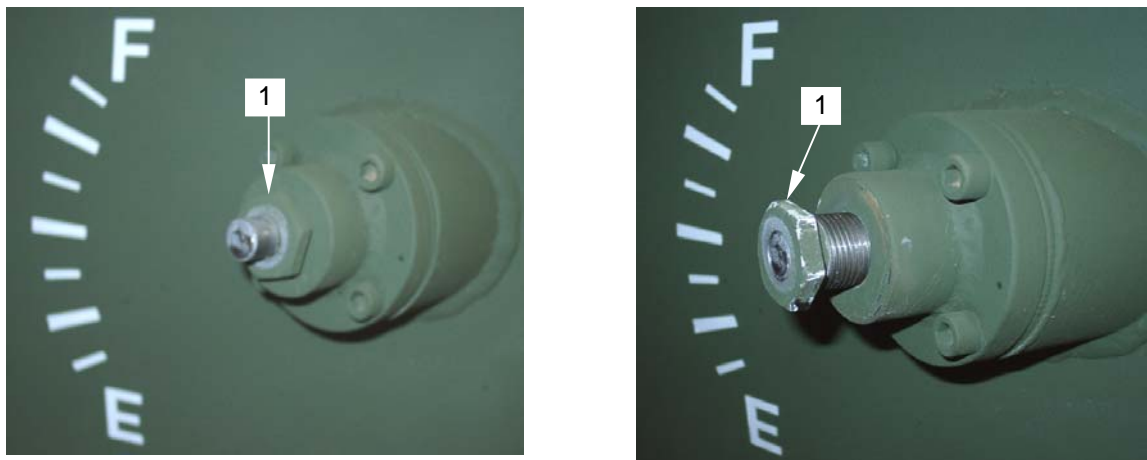

Figure 2. Removing Packing Gland Nut
- b. Remove the level indicator packing gland nut (**figure 2, item 1**) and existing packing.